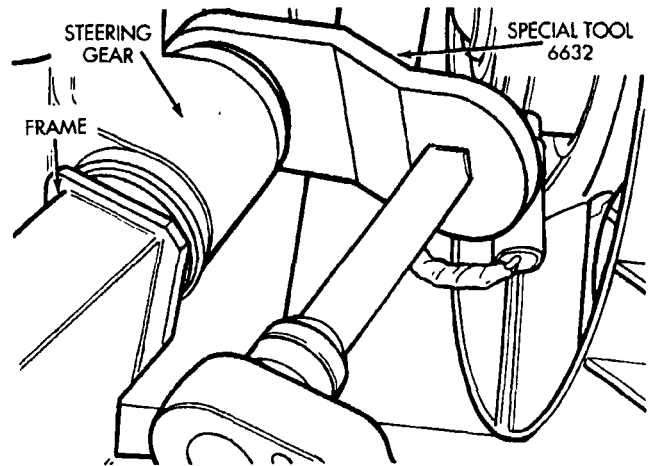

Figure 4
6. Using Special Tool #6632, remove the two steering gear mounting bolts (Figure 4).